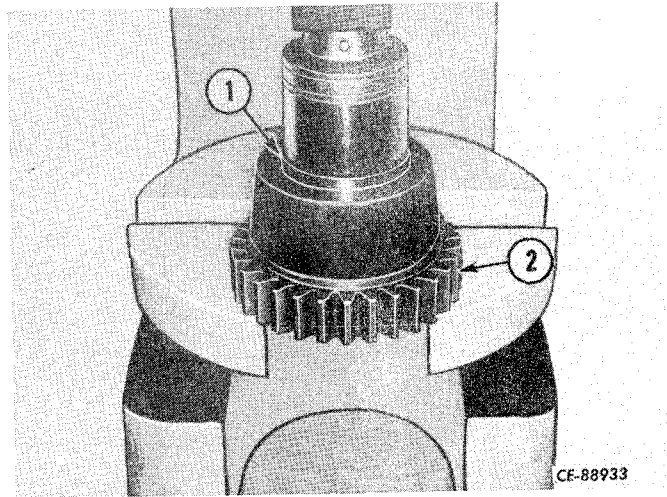

Figure 4-60
Press the bearings (1, Fig. 4-60) into the idler gear (2) until they bottom against the retaining rings.